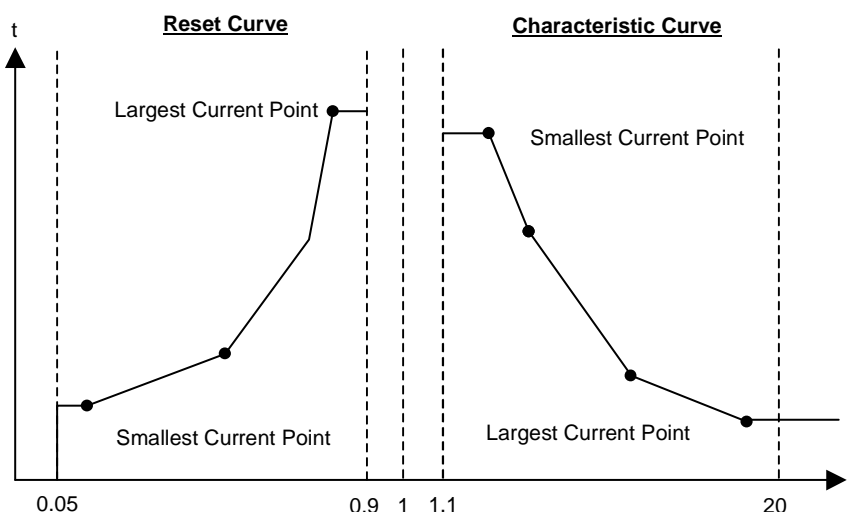

Figure 6-28 Use of a User-Specified Curve
- Current flows which are less than the smallest current value entered will not lead to an extension of the tripping time beyond the time associated with this smallest current value entered. The characteristic curve (see Figure 6-28) represents constant tripping time for currents less than the smallest current value entered.
- Current flows which are greater than the largest current value entered will not lead to a reduction of the tripping time below the time associated with the largest current value entered. The characteristic curve (see Figure 6-28) represents constant tripping time for currents greater than the largest current value entered.
- Current flows which are greater than the largest current value entered will not lead to an extension of the reset time beyond the time associated with the largest current value entered. The reset curve (see Figure 6-28) represents constant reset time for currents larger than the largest current value entered.
- Current flows which are less than the smallest current value entered will not lead to a reduction of the reset time below the time associated with the smallest current value entered. The reset curve (see Figure 6-28) represents constant reset time for currents smaller than the smallest current value entered.